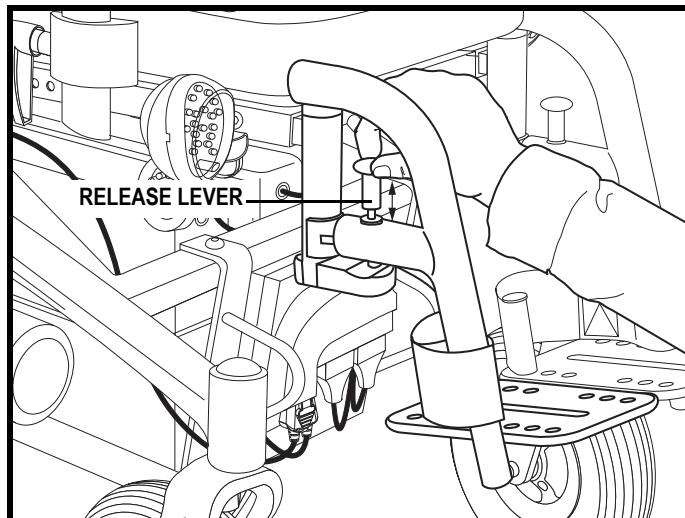

Figure 19. Swing-away Footrest
1. Pull the release lever. See **figure 19**.